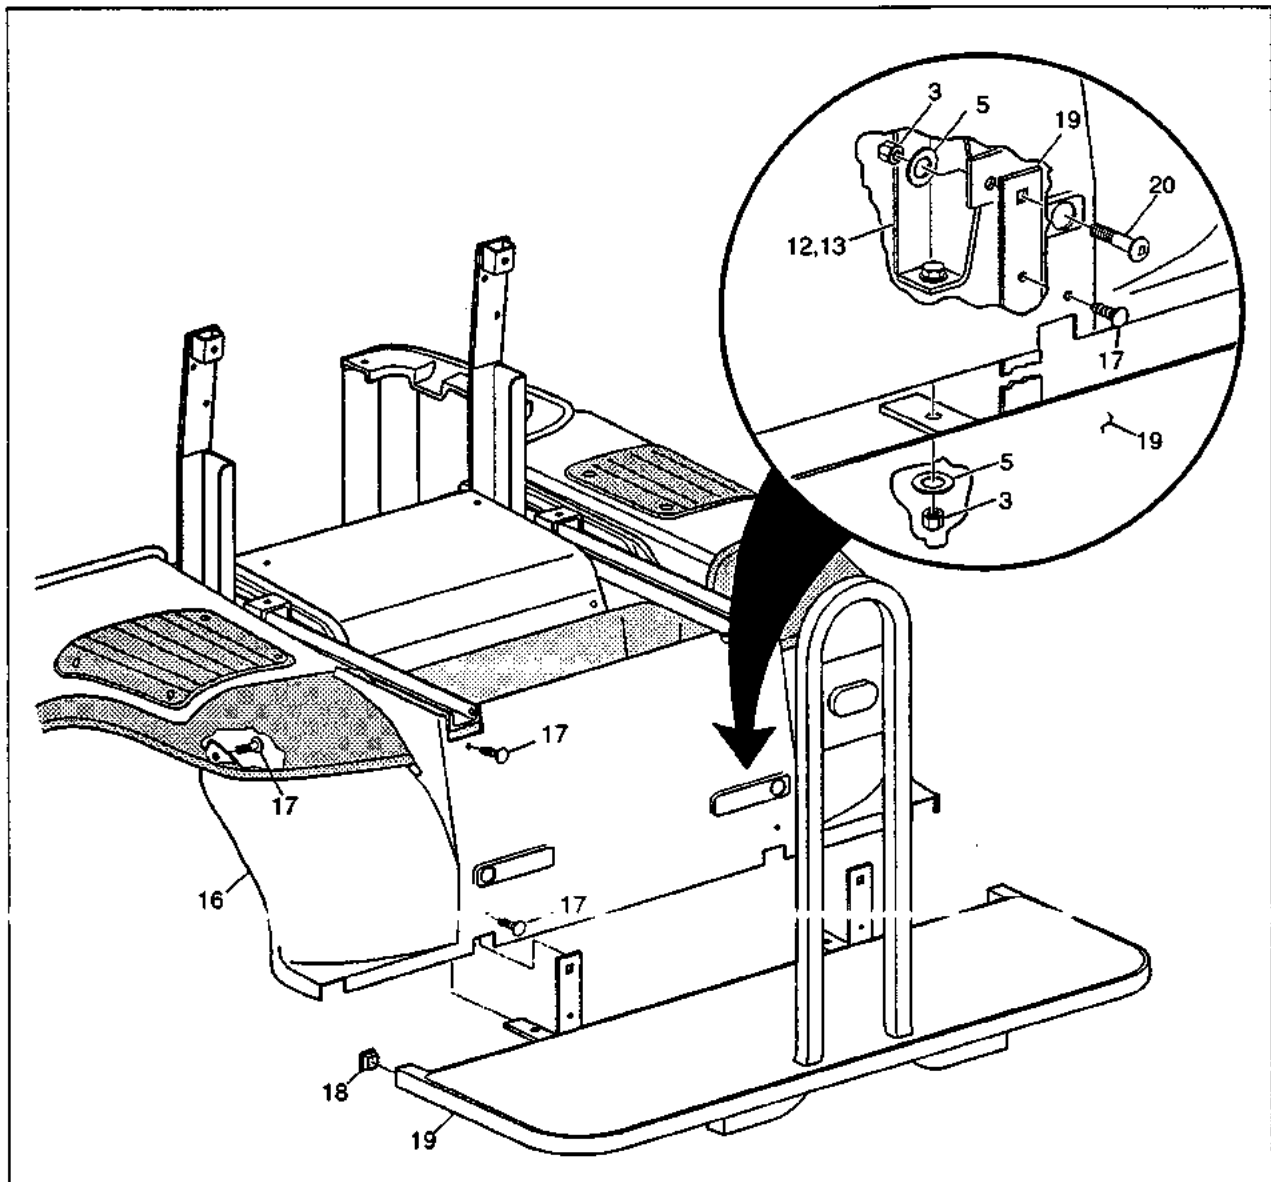

Fig. 5
1. Place the valance panel (item 16) as shown in Fig. 5 with the side flaps under the fender end caps.
2. Secure the side flaps to the fender end caps using two plastic rivets (item 17) as shown.
3. Install the end plugs (item 18) into the tubing ends of the foot rest assembly (item 19).
4. Remove the nut (item 3) and washer (item 5) (previously installed) from the underside of the frame. See Detail in Fig. 5.
5. Place the foot rest assembly (item 19) up against the bottom of the valance panel aligning the bolts that were previously installed in the bagwell with the holes in the horizontal part of the welded bracket. Be sure the vertical part of the welded bracket is inserted between the valance panel and the vertical frame supports. See Detail in Fig. 5.